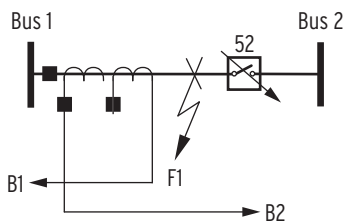

Figure 14 A Single CT With Two CT Cores Configured in Overlap
- ▶ A single CT with two cores configured in overlap (Figure 14)
Configure any one of these schemes without using external auxiliary relays. Figure 13 and Figure 14 also show the tie breaker closing onto an existing fault, F1. The SEL-487B includes tie-breaker logic to prevent the loss of both zones for this fault.